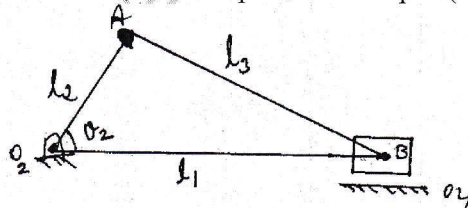

Fig. Q5 (b)
b. For a single slider mechanism, of Fig. Q5 (b) determine the velocity and acceleration of piston, angular acceleration of connecting rod. Take crank length = 50 mm, connecting rod = 200 mm, Crank speed = 300 rpm (constant), Crank angle  $30^\circ$ . (10 Marks)